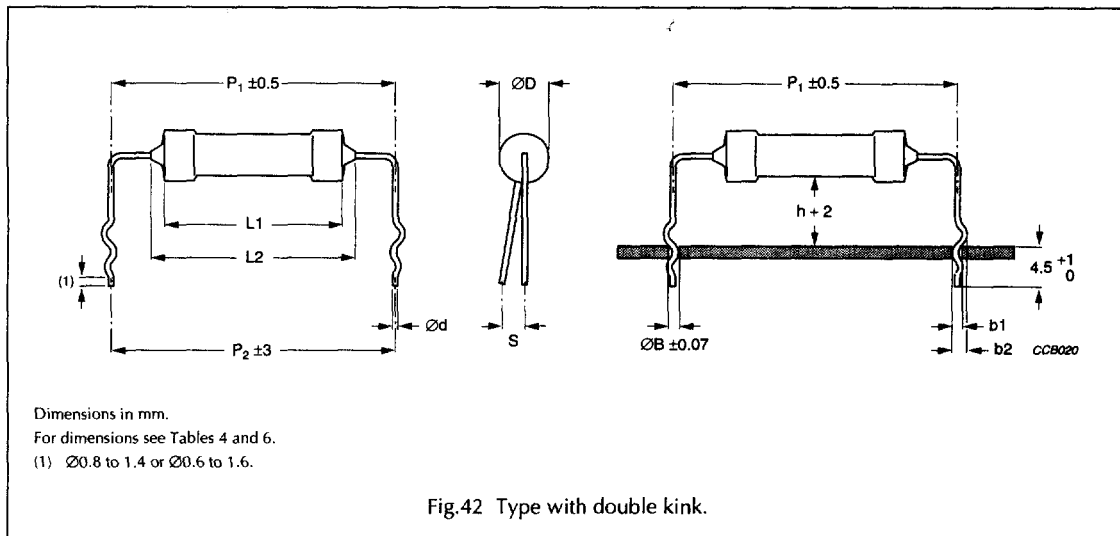

Fig.42 Type with double kink.
1. Can be replaced by double kinked versions; see Fig.42.
Table 6 Double kink lead type and relevant physical dimensions; see Fig.42